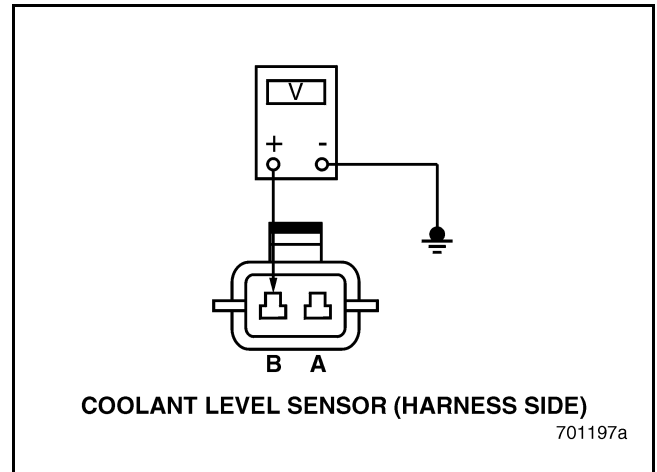

Figure 109
3. Measure the voltage between pin B on the harness side of the connector and a good ground (see Figure 109).